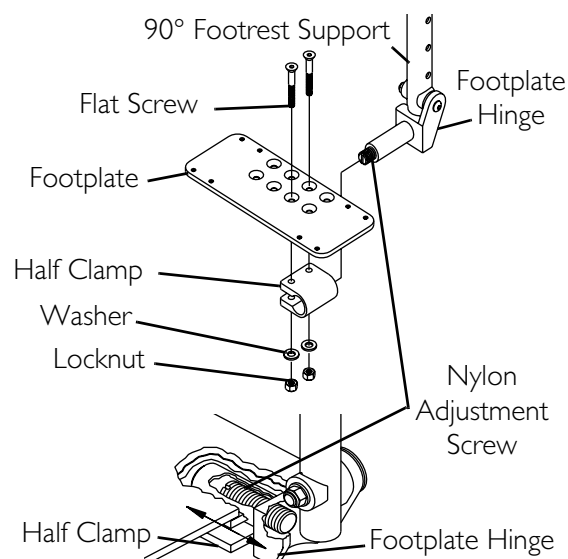
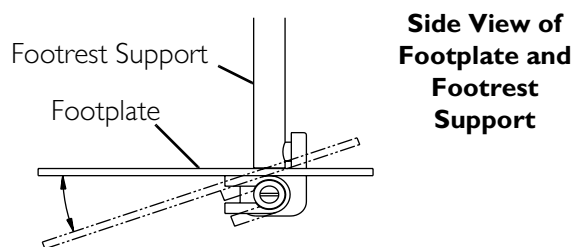
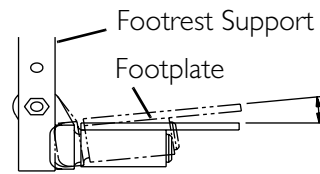

FIGURE 6.9 Installing Adjustable Angle Flip-up Footplates
FIGURE 6.10 Angle Adjustment
FIGURE 6.11 Perpendicular and/or Inversion/Eversion Adjustment
NOTE: For this procedure, refer to FIGURE 6.9.
NOTE: For this procedure, refer to FIGURE 6.9 and FIGURE 6.10.
1. Loosen, but DO NOT remove, the two flat screws, washer and locknuts that secure the footplate to the footplate hinge (FIGURE 6.9).
2. Position the footplate to the necessary angle to accommodate the user (FIGURE 6.10).
NOTE: For this procedure, refer to FIGURE 6.9 on page 72 and FIGURE 6.11.
1. Insert a flathead screwdriver through the half clamp on the footplate (FIGURE 6.9).
2. Slowly turn nylon adjustment screw in or out until footplate is perpendicular to the footrest assembly or the desired inversion or eversion is obtained (FIGURE 6.11).